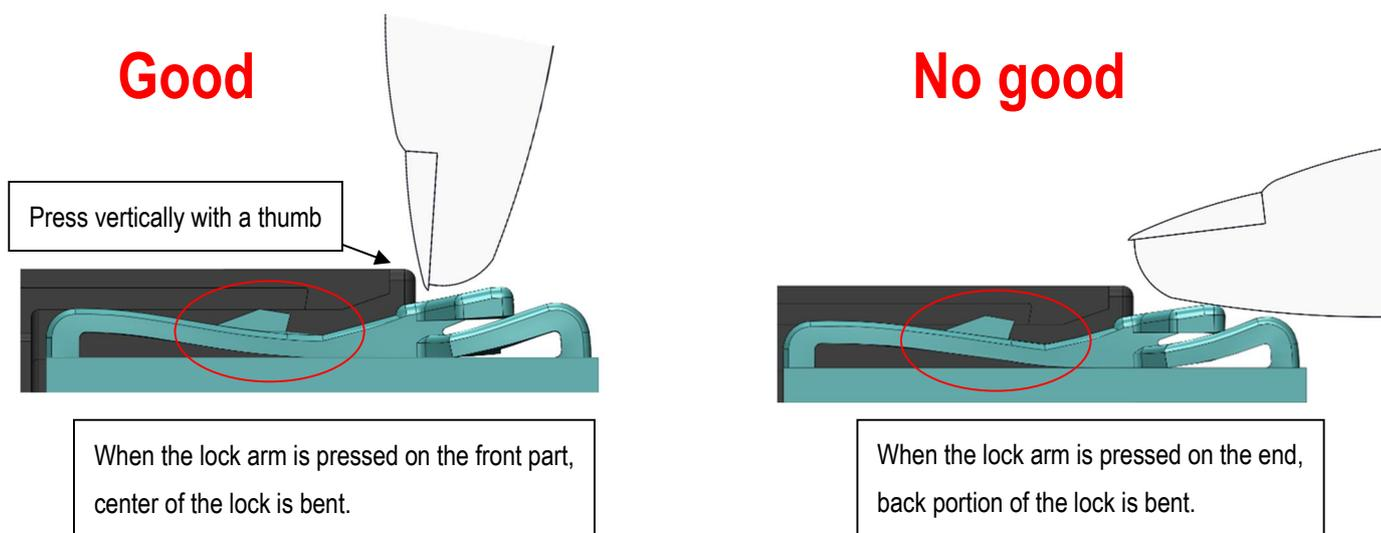

Fig.51. Mechanism of the lock
- ④ Pressing down the end of the lock arm may not release the lock fully (See Fig. 51)